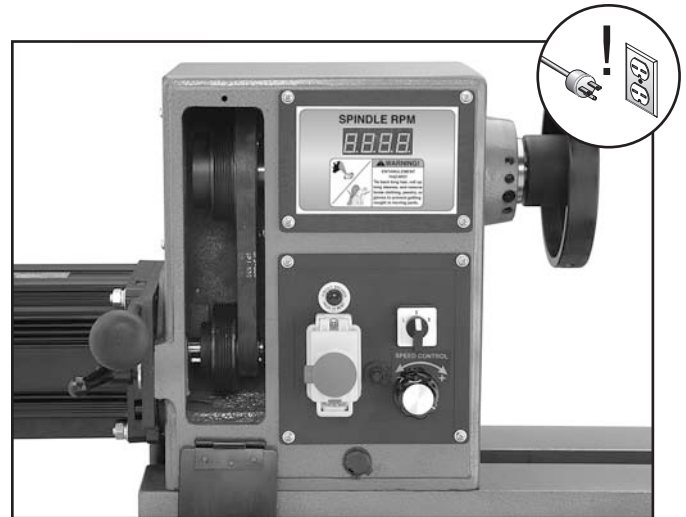

Figure 29. Belt access panel removed.
2. Open the front belt access panel (see **Figure 29**).